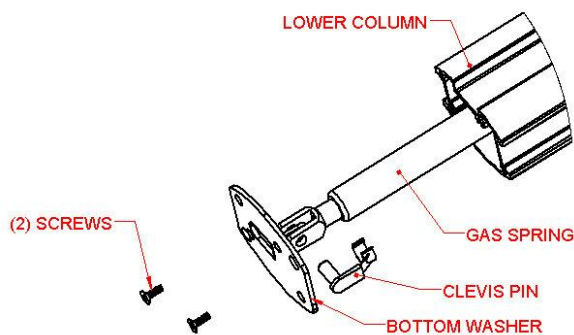

Figure 9
5.7 Remove the bottom washer. Remove two screws in the bottom of the column's bottom washer. Pull the gas spring out of the column. Unsnap the clevis pin and remove the bottom washer (Figure 9).
5.8 Assemble bottom washer to the new gas spring using the clevis pin (Figure 9).